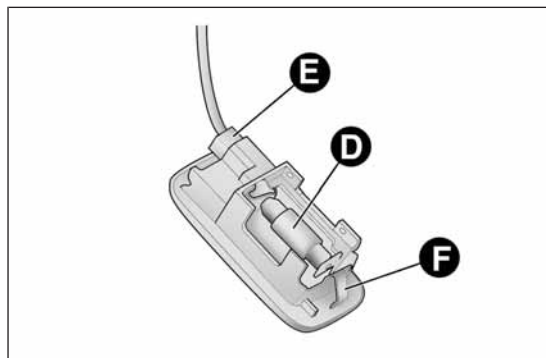

fig. 149
- ❑ remove protection B, releasing it from tabs C, then replace bulb D fig. 149 by pulling it outwards and releasing it from the side contacts;
- ❑ refit the roof light, inserting it first from side E fig. 149, then press on the other side until you hear tab F click into place.